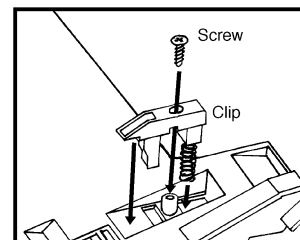

Figure 2
- Remove the two clips that hold the cartridge together (Fig. 2).